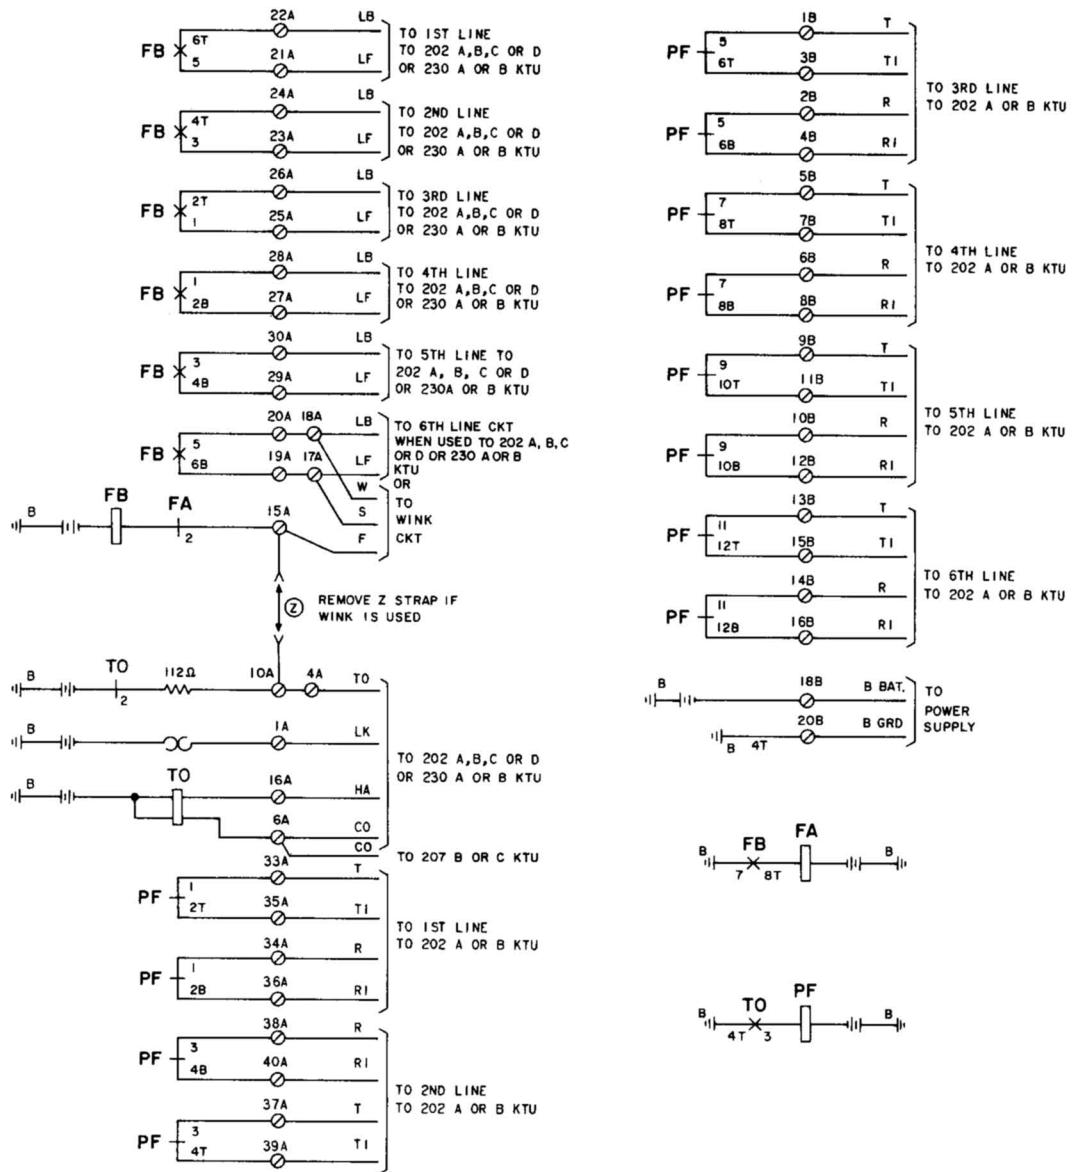

Fig. 10—Functional Schematic of 209A KTU (MD) (Lamp Flashing and Time-Out Circuit)
H. 209A KTU (MD) (Lamp Flashing and Time-Out Circuit)
- 2.13** The 209A KTU (Fig. 10) is used on CO or PBX lines to provide: